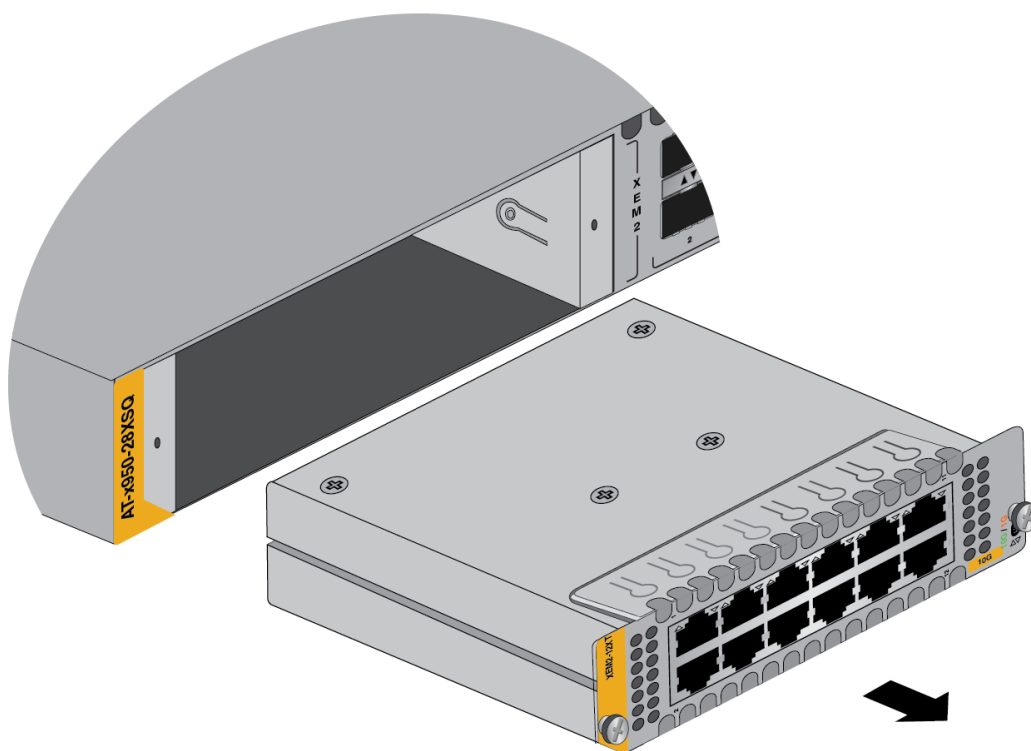

Figure 137. Sliding an Ethernet Line Card from the Switch
6. Carefully slide the card from the switch. Refer to Figure 137.